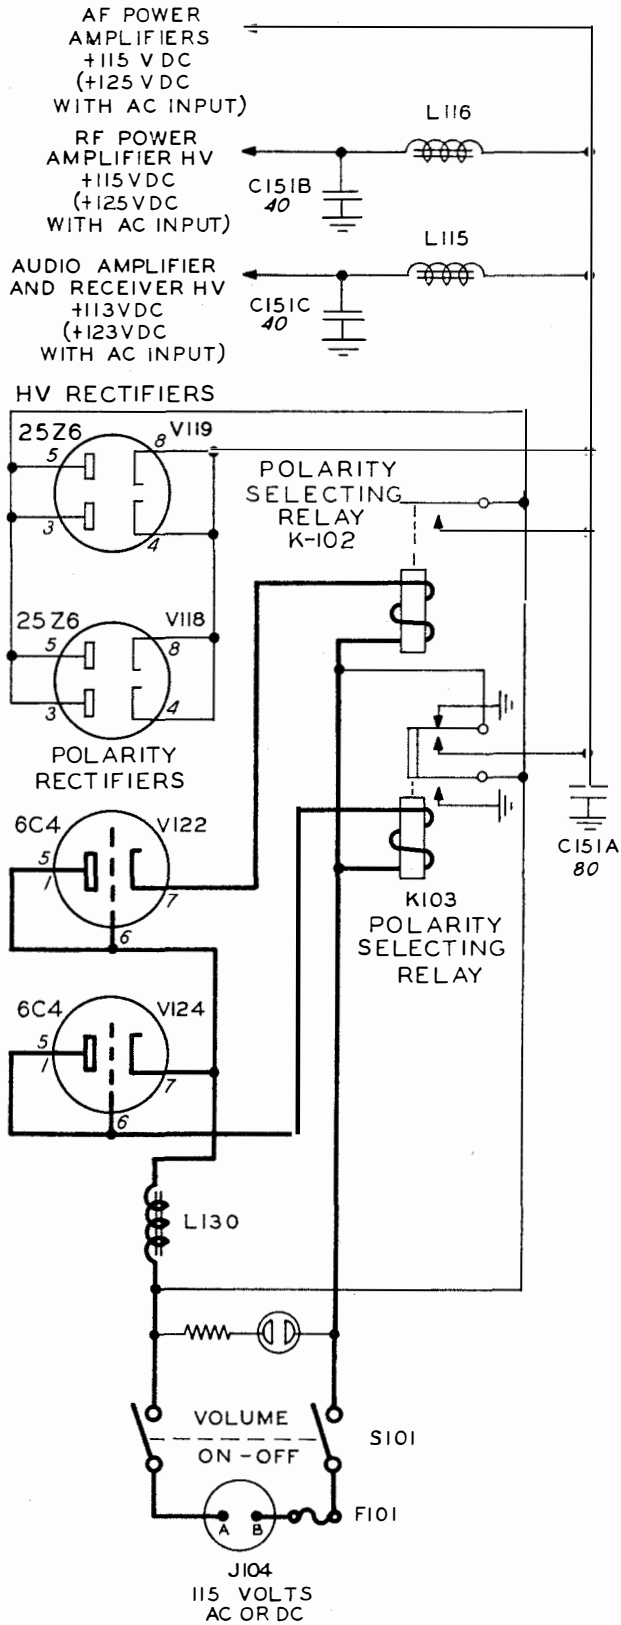

Figure 4-4—Rectifier Circuits
(2) RECTIFIER CIRCUITS. (See figure 4-4.) —The rectifier circuits include a polarity selecting rectifier circuit, using two Type 6C4 tubes, for maintaining the correct polarity to the high voltage filter sections when a DC power source is used. The high voltage rectifier circuit is of the half wave rectifying type and uses two Type 25Z6 tubes connected in parallel.